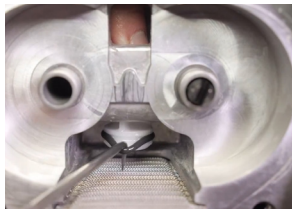

Figure 19
- b. Remove the O-ring with a small screwdriver or similar tool. Take care not to damage the poppet or O-ring (see Figure 19).